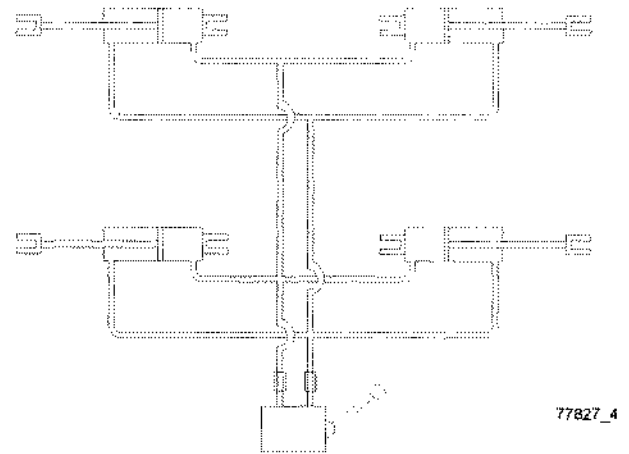

Fig. 5 Four Cylinder Wing Lift Circuit
Fig.5 Shows a simple four (4) cylinder circuit used to fold a pair of wings. This system is used on Wil-Rich Quad X field cultivators with a single pair of 9'4" or 11'8" folding wings.